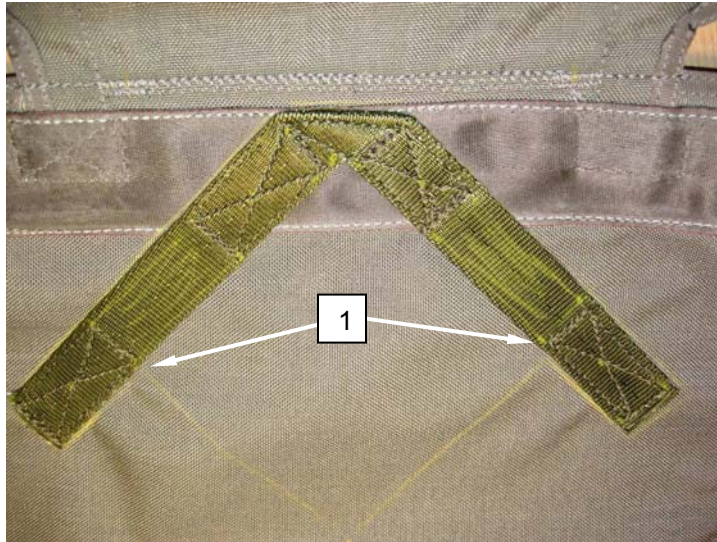

Figure 45. 2-inch Box X Stitching on the Diagonal Back Strap Keeper.
20. Sew two Box X stitch patterns 2 inches in length with locking stitch on the lower portion of the diagonal back strap keeper (Figure 45, Item 1).